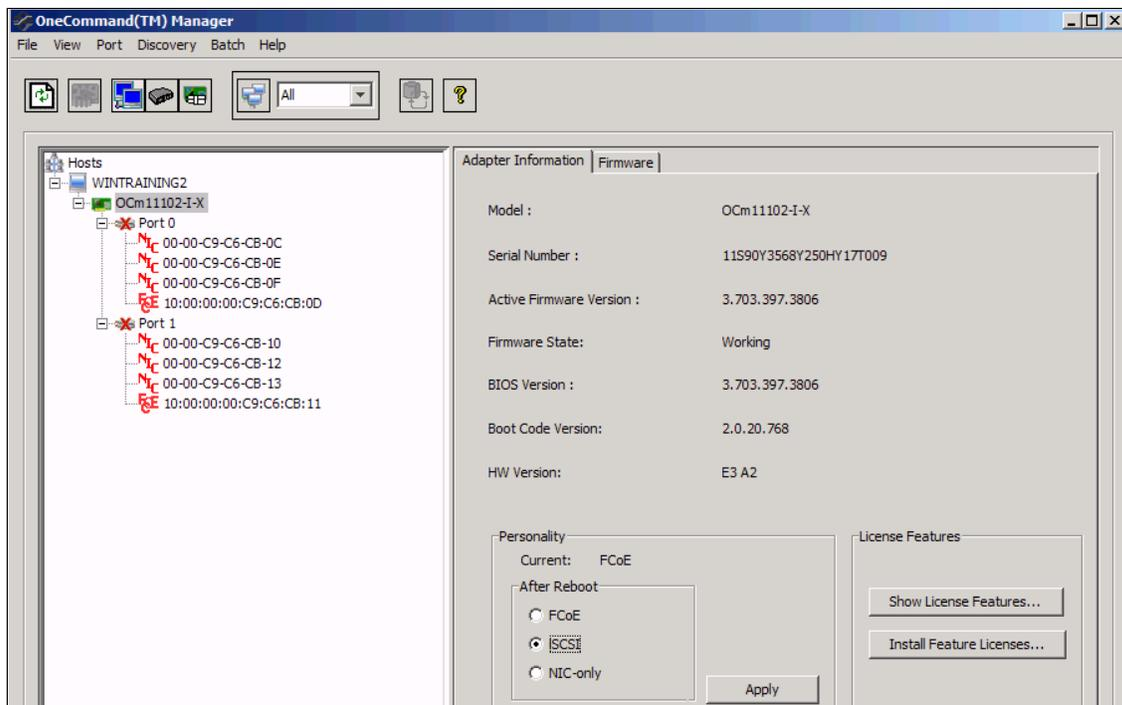

Figure 5-37 OneCommand Manager choosing a particular personality
1. In the OneCommand Manager window (Figure 5-37), in the left pane, select the adapter information.